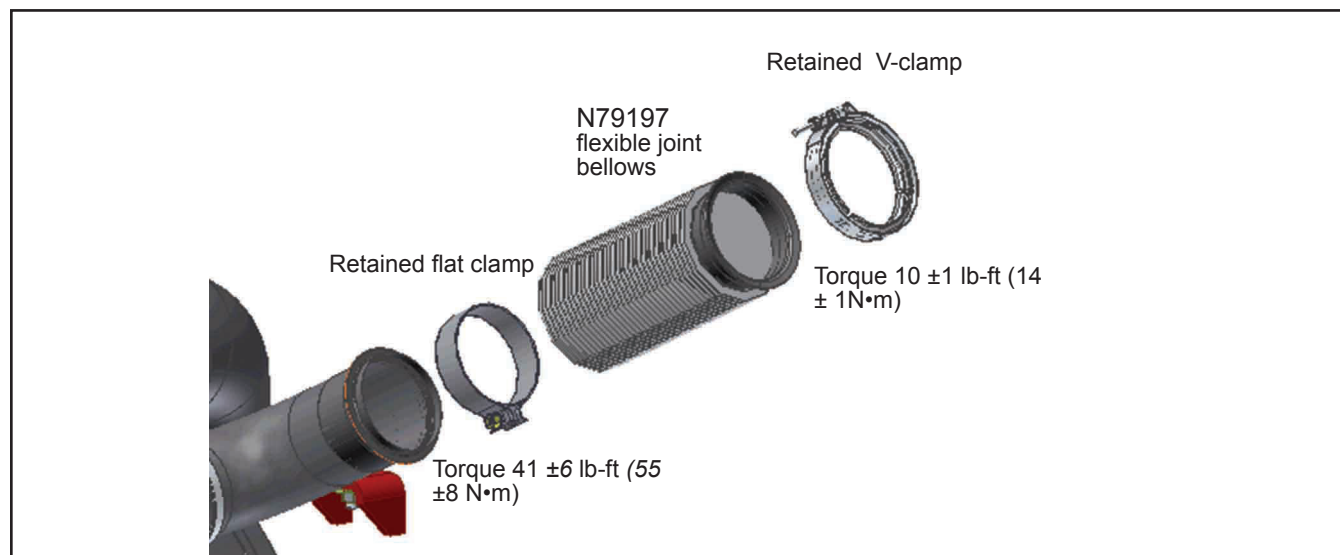

Figure 3 - Flexible Joint Bellows Assembly
- 1.10. Tighten to the torque specified in Figure 3.